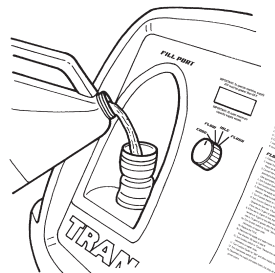

Figure 3
6. Fill the supply tank with Dexron VI® ATF, or equivalent, through the fill port. See Figure 3.